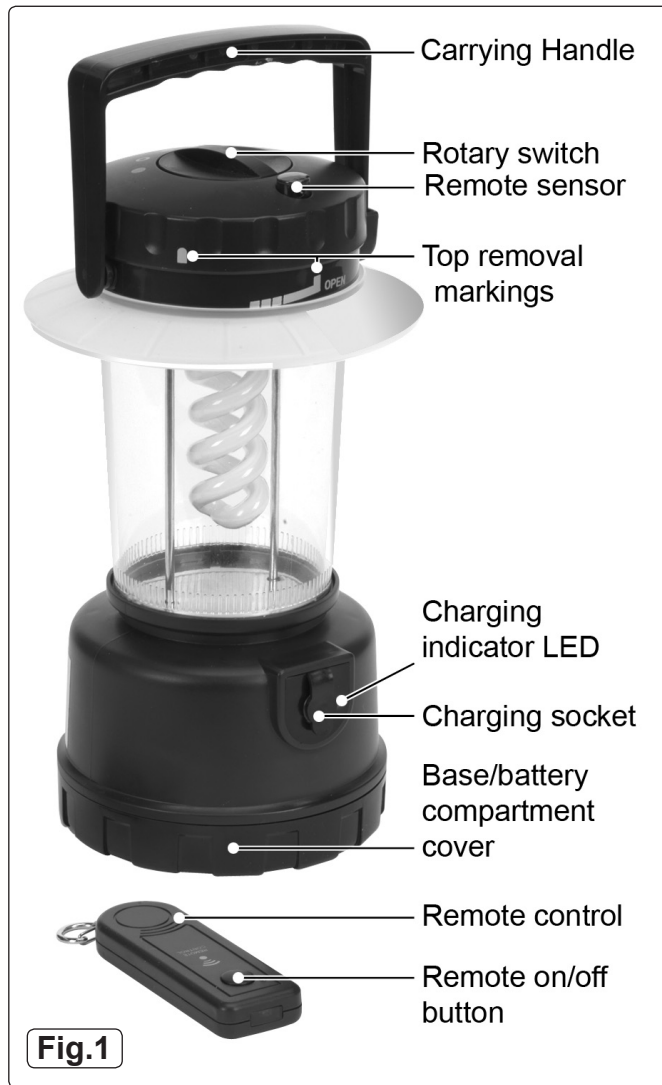

Fig.1
- ✗ **DO NOT** place the power connector into any area of the product except the correct inlet socket (fig.1).
- 3.1.1. Plug the mains charger (see fig.2A) into the mains power supply. Plug the charging connector at the other end of the charging cable into the charging socket in the base of the lantern (see fig.1). Switch on the mains power supply. The charging indicator situated next to the charging socket is a dual colour LED (red & green). At the start of charging the LED will be predominately red. When fully charged the LED will be predominately green. Allow 16 hours to fully charge.